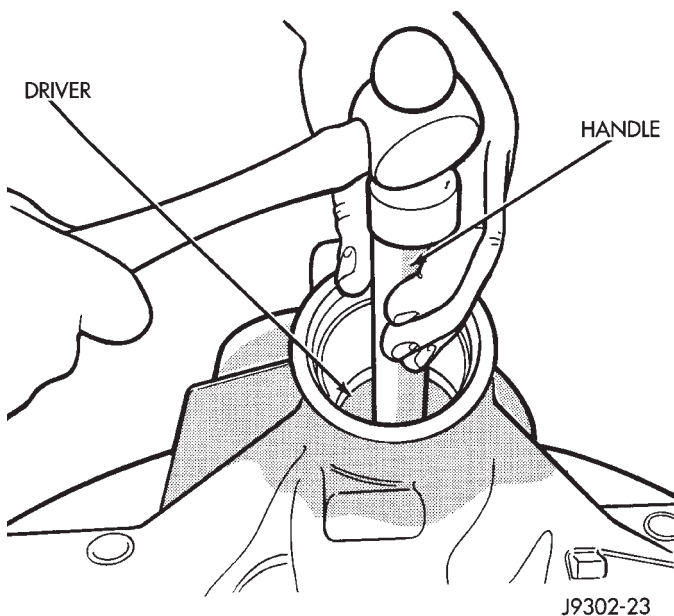

Fig. 27 Rear Bearing Cup Removal
(7) Remove the rear bearing cup from housing (Fig. 27). Use Remover C-4307 and Handle C-4171.